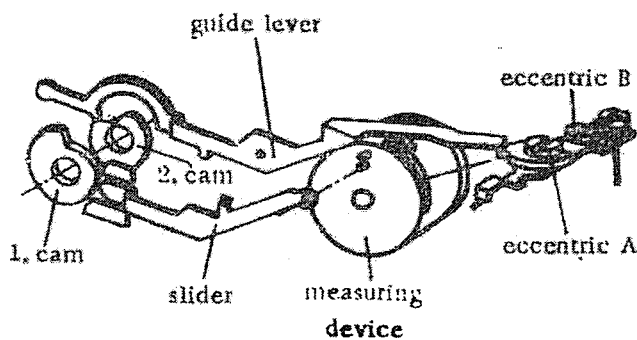

Fig. 7.1
4.1/2 of the shutter speed setting knob so that the guide lug is situated on the first cam behind the plate (see Fig. 7.1). Rotate the measuring device that the bearing bush of the slider is situated on the bearing pin of the measuring device. Mount the plates 6.1/13 and 6.1/14. If the rangefinder was removed during the assembly, the measuring device must be aligned with the aid of gauge 400-071.439-101 W1 and mounted. The gauge must be mounted in place of the rangefinder.
Insert the guide lever 6.1/7 at the time setting "B" so that the lug is guided in the milled recess of the main body and positioned on the second cam behind the plate of the shutter speed knob (see Fig. 7.1). Insert the guide rivet of the guide lever in the bearing angle 7.1/31 and screw the bearing angle firmly in position. Screw the screw 6.1/23 together with the spring 6.1/22 home and hook the spring in.
Screw the eye piece 042-792.002-000 W 12 on the rangefinder eyelens and observe the exposure time indication through the viewfinder. If the lift between "B" and "1000" is too great or too small, i.e. if the pointer moves beyond both end settings or stops before both end settings, correction will be possible by rotation of eccentric "A" (see Fig. 7.1) of the guide lever 6.1/7.
If the whole indication is too far to the right or to the left, i.e. the pointer is situated in front or behind the time values, correction can be carried out by rotation of eccentric "B" (see Fig. 7.1) of the guide lever.